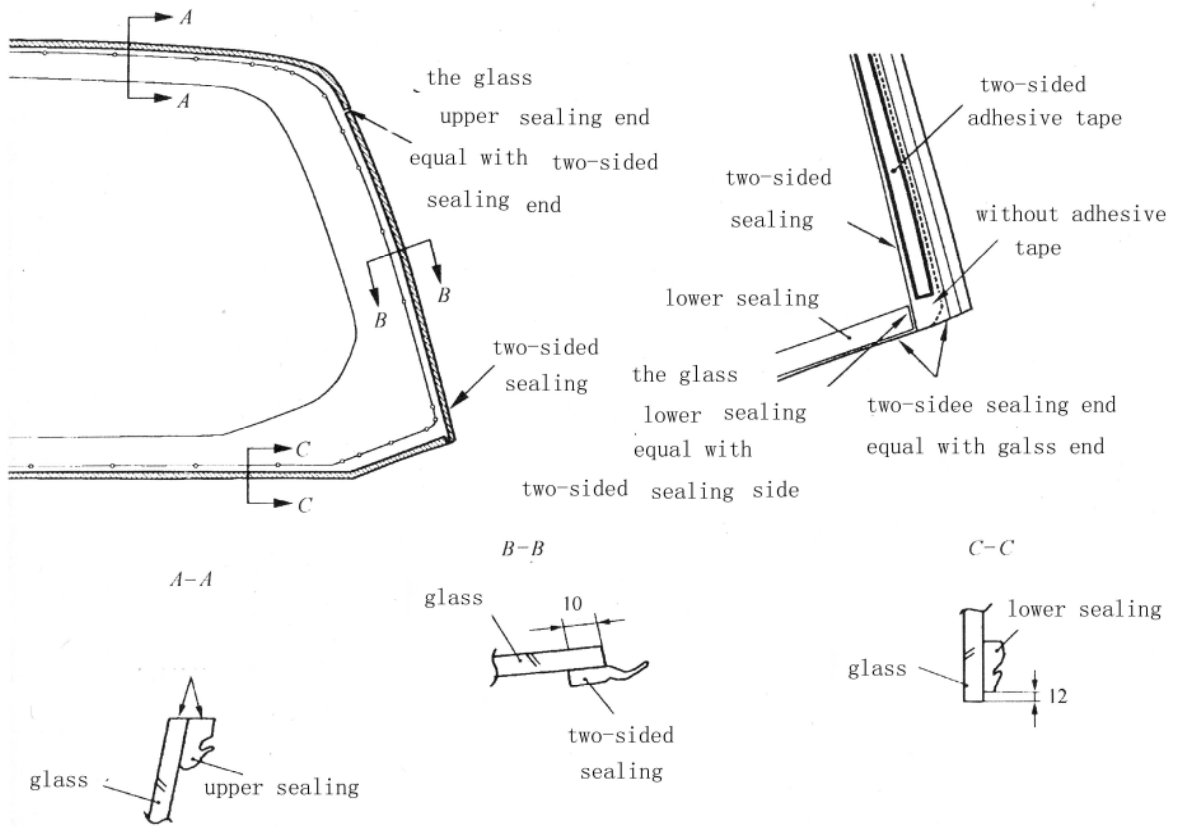

Fig. 18-49
- ① Clean the adhesive surface of the glass with isopropyl alcohol
- ② Installation the sealing according to the following steps: side sealing 、 upper sealing 、 lower sealing ,position and relations of all parts see Fig.18-49.